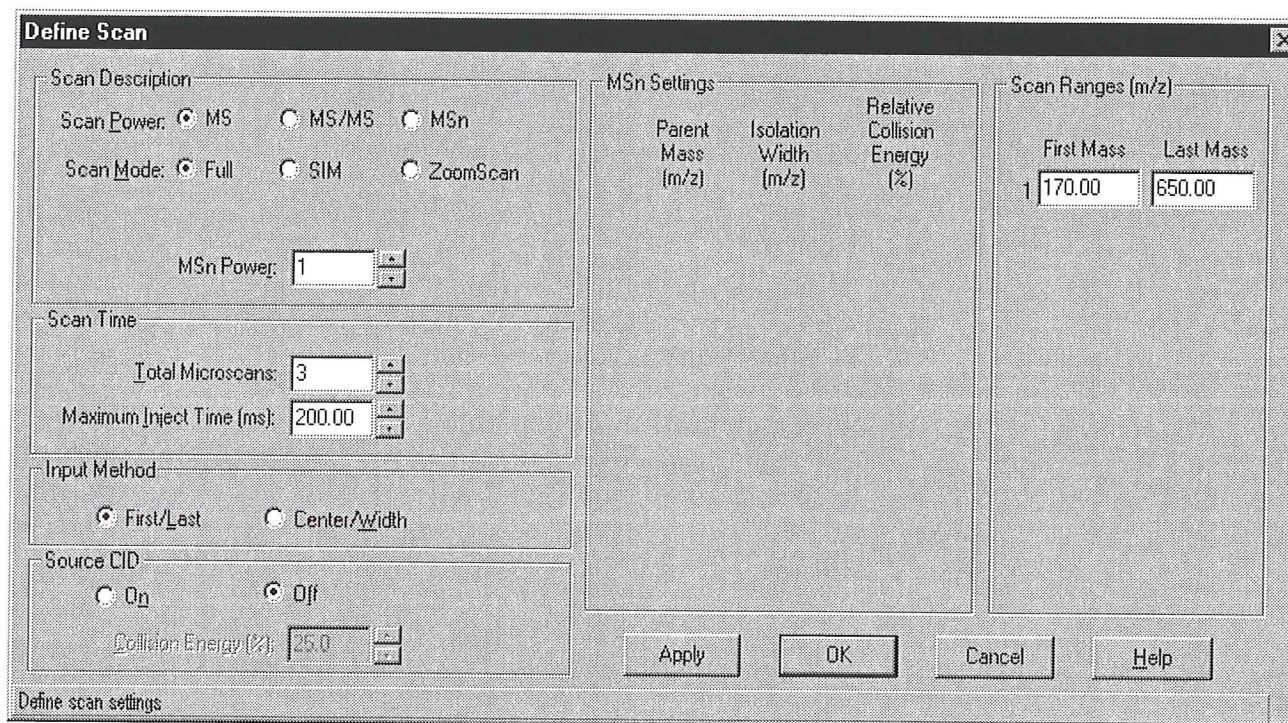

Figure 3-2. Define Scan dialog box, showing settings to perform automatic tuning with reserpine in MS Full scan mode
Click on the Define Scan button. See Figure 3-2.
- j. Confirm that your display resembles that shown in Figure 3-2.